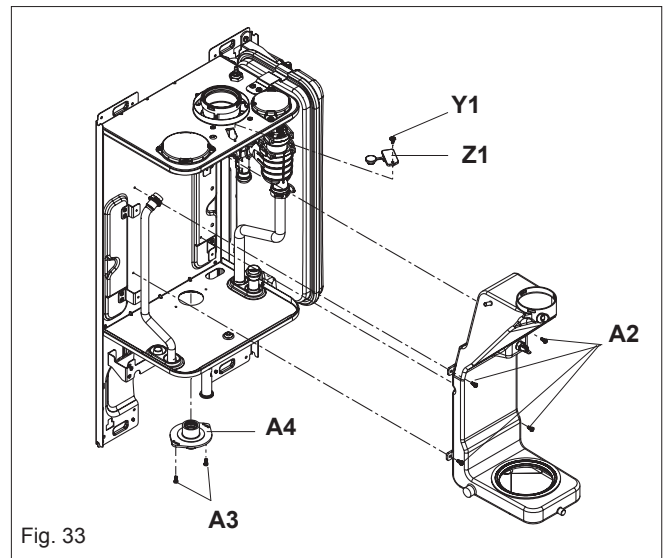

Fig. 33
6.20 FLUE COLLECTOR REMOVAL (fig. 33)
Set the flue gas analyser to read CO₂, allow the burner to stabilise and insert the probe into the flue analysis test point (Y1-Z1 fig. 33). The appliance will operate in CO₂ mode for approximately 15 minutes.
- Insert the flue gas analyser probe into the flue gas test point (see fig. 33) and compare the values with those shown in section 2 (Nat. Gas) or section 10 (LPG). If different adjust the gas valve according to 7.3.1, 7.3.2, & 7.3.3.